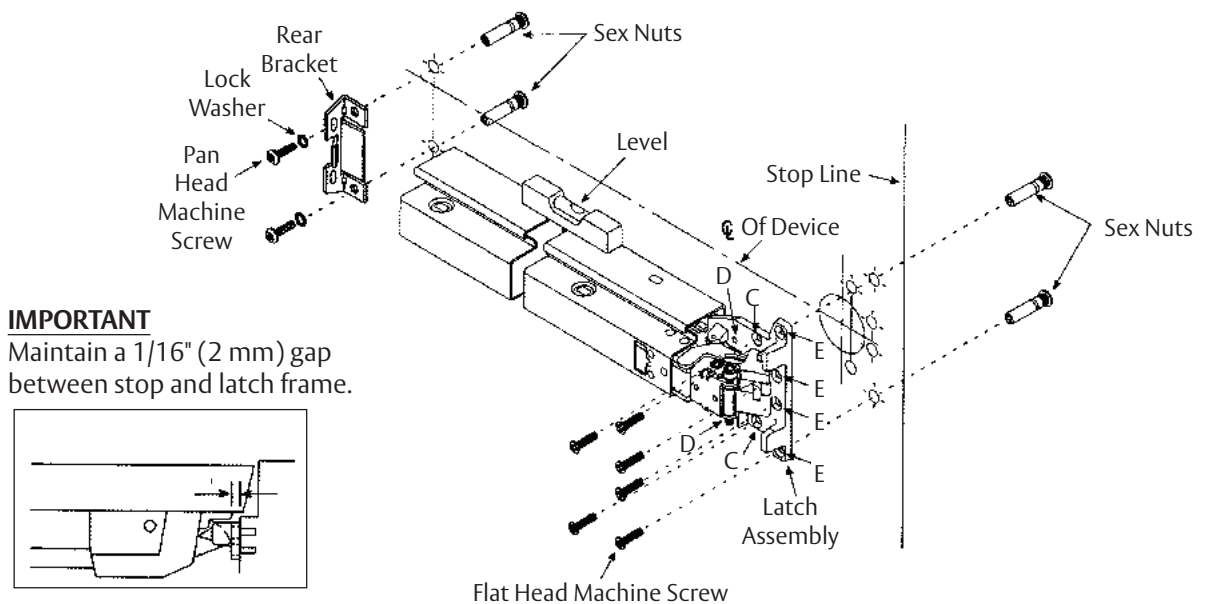

Figure 6
- For **throughbolted trim** in 2-1/8" prep, install device with two (2) fillister head screws (packed with trim) in latch assembly holes marked **D**. (Figure 6)
- Use level as shown to ensure device is level. Use rear bracket to spot, drill, and tap two (2) rear bracket mounting holes. Attach rear bracket to door using two (2) pan head machine screws and two (2) lock washers. Drill, tap, and install four (4) flat head machine screws in latch assembly holes marked **E**. (Figure 6)
- Using device as a template, drill 1/4" (6 mm) top and bottom latch assembly holes marked **D** through door. Enlarge holes to 3/8" (10 mm) from opposite side of door to clear for sex nuts. Install two (2) flat head machine screws and two (2) sex nuts. Drill and tap two (2) middle latch assembly holes marked **E** and install two (2) flat head machine screws (if applicable). (Figure 6)
- Use level as shown to ensure device is level. Use rear bracket to spot and drill 1/4" (6 mm) holes through door. Enlarge holes to 3/8" (10 mm) from opposite side of door to clear for sex nuts and bolts. Attach rear bracket to door using two (2) pan head machine screws, two (2) lock washers, and two (2) sex nuts. (Figure 6)